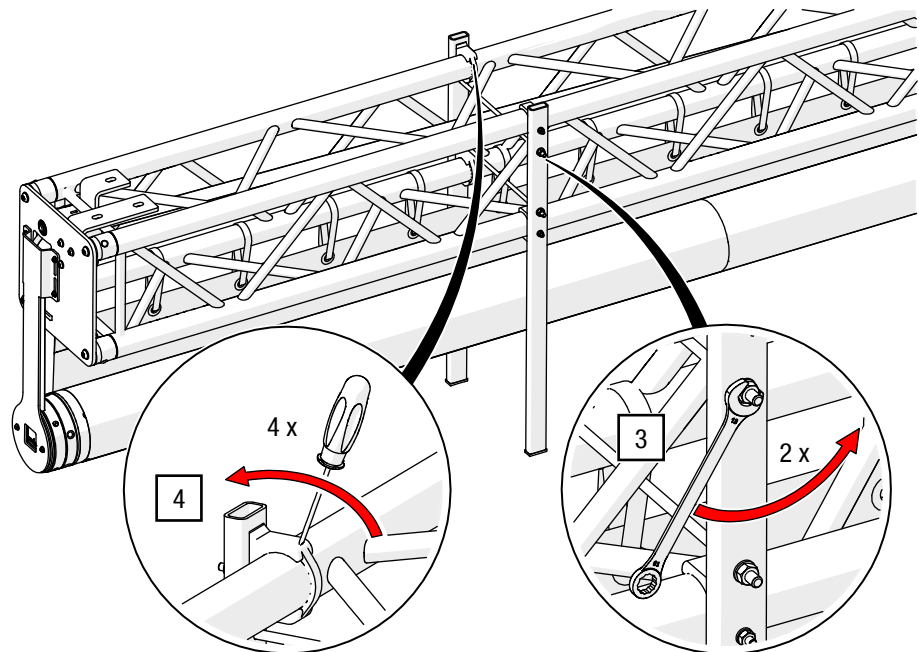

Fig. 14: Loosen transport feet
3. Loosen the screw connection of the threaded rods on one side using an AF 13 open-ended spanner (see Fig. 14).
4. Loosen the pipe clamps on both transport feet by levering the pipe clamps open with a slotted screwdriver (the design of the pipe clamps may vary depending on the manufacturer; see Fig. 14).